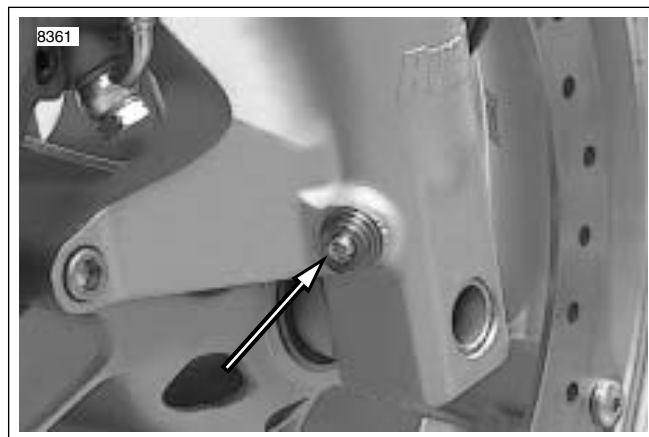

Figure 1-30. Front Fork Compression Damping Adjuster
1. See Figure 1-30. Using a screwdriver, turn the slotted dial clockwise until it stops. This is the maximum compression damping setting.